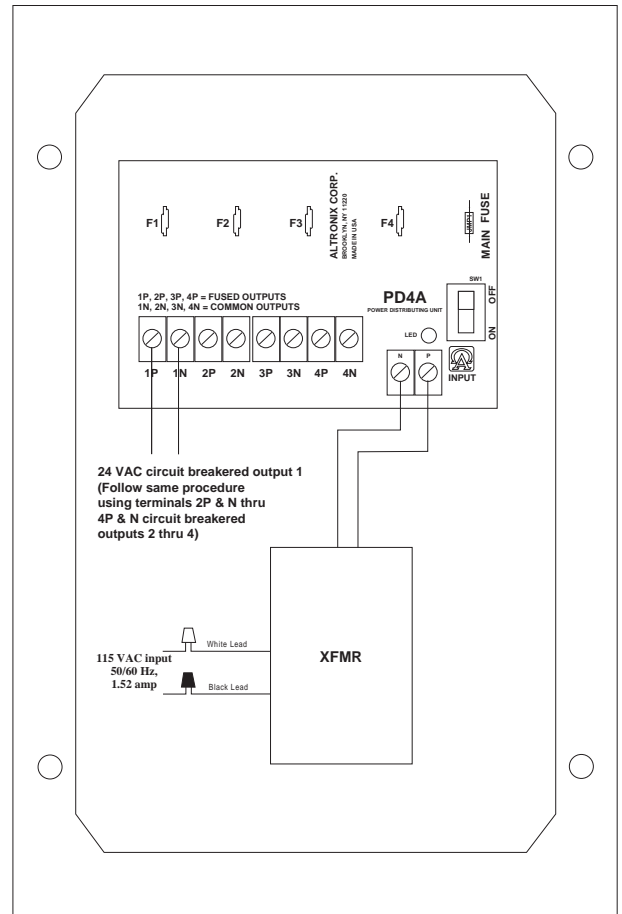

Fig. 1
- Four (4) circuit breaker protected outputs rated @ 2.5 amps (*Fig. 1*).
2. Slide switch SW1 (*Fig. 1*) to OFF position.
3. Connect the AC (115VAC 50/60 Hz) to the black and white flying leads of the transformer (*Fig. 1*).
4. Connect each camera to terminal pairs 1 to 4, marked [1P-1N thru 4P - 4N] (*Fig. 1*).
5. Slide switch SW1 (*Fig. 1*) to ON position.